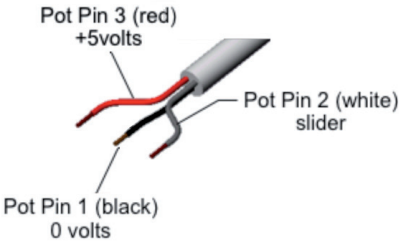

Fig C2 - RFB cable connections
- Connect the RFB Module wires to autopilot junction box - refer to Figs C2 and C3 for the correct wiring color connections for common autopilot brands.